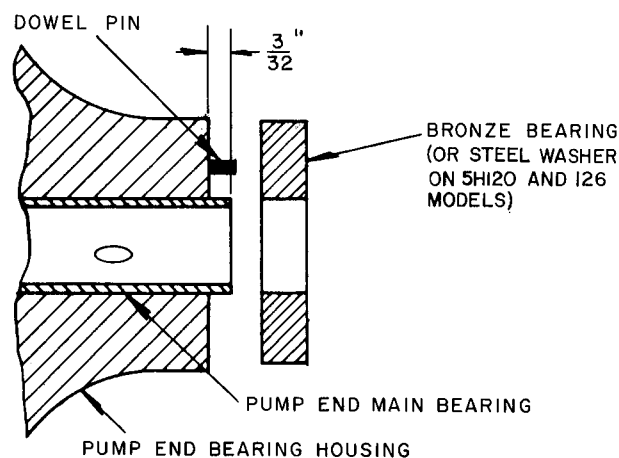

Fig. 55 — Pump End Main Bearing Position
3. Place bearing washer on bearing with notch in washer properly positioned around dowel key (Fig. 55).